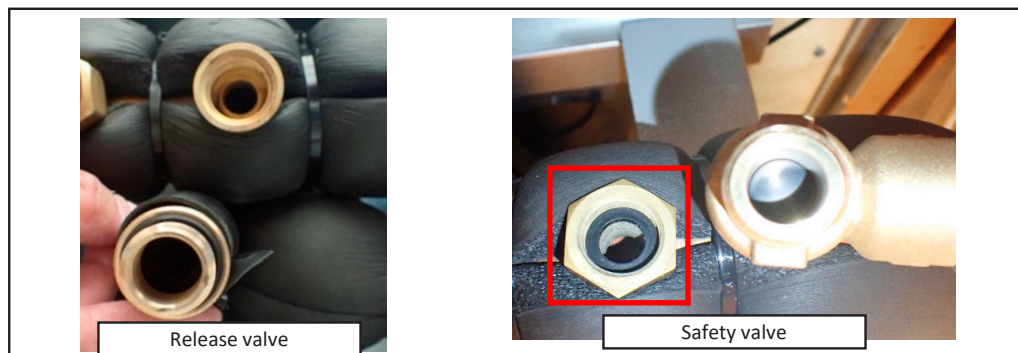

Fig16. Removing release valve and safety valve
(4) Release valve
- (a) Loosen the release valve and remove the release valve. (Fig.16)
(5) Safety valve
- (a) Loosen the nut under the safety valve. Remove the safety valve. (Fig.16)